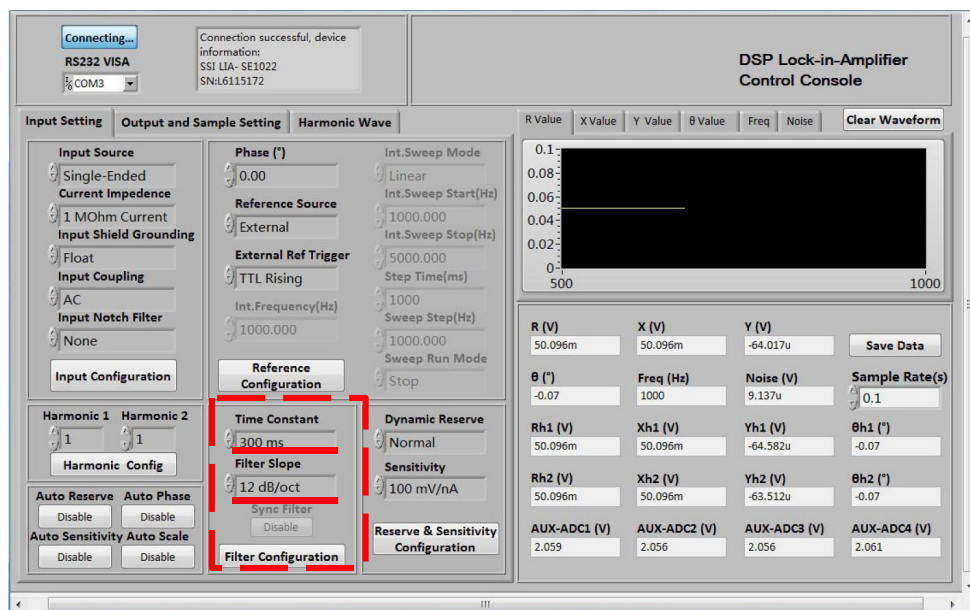

Fig.76 Filter Configuration
3. Choose these two options in “Filter Configuration”, including “Time Constant” and “Filter Slope” with other options in default, as is shown in Fig.76. At last, click the button **Filter Configuration** to finish the configurations.